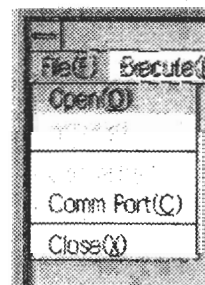

Figure 4-6
① "File(F)" pull-down menu (Figure 4-6)